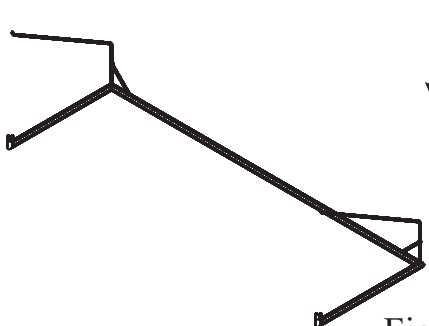

Fig 2.1
3 Crossbar - Slide the upright onto the crossbar. Fit the crossbar fixing plates (8) and net supports (5) onto the bolts in the crossbar and the uprights and secure with washers (13) and nuts (14) (It is advisable for someone to hold the net support in place until the net support diagonal brace has been fitted). Fit the net support braces (6) between the net supports and the crossbar with the spacer blocks (10) and secure with a 50mm bolt (11), washers (13) and nuts (14), all as shown in Fig 3. The goal will now look like Fig 2.1.